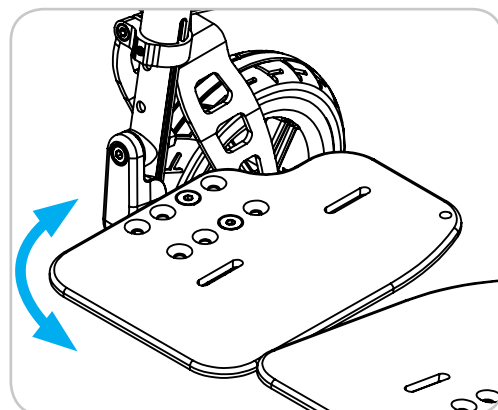

Figure 30
2. Adjust footplate to the desired angle. Reference Figure 30.